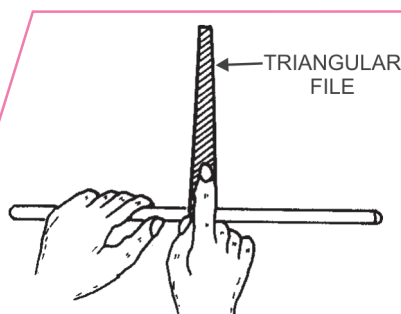

Fig. 2.1 MAKING A GROOVE
3. Make a deep scratch on the glass tube at desired length with the help of triangular file on mark, keeping the tubing pressed on the table with left hand as shown in Fig. 2.1. The file should be at right angles to the glass tubing.
3. Make a deep scratch mark on glass rod with the help of triangular file on the mark, keeping the rod pressed on the table with left hand as shown in Fig 2.1. The file should be at right angles to glass rod.